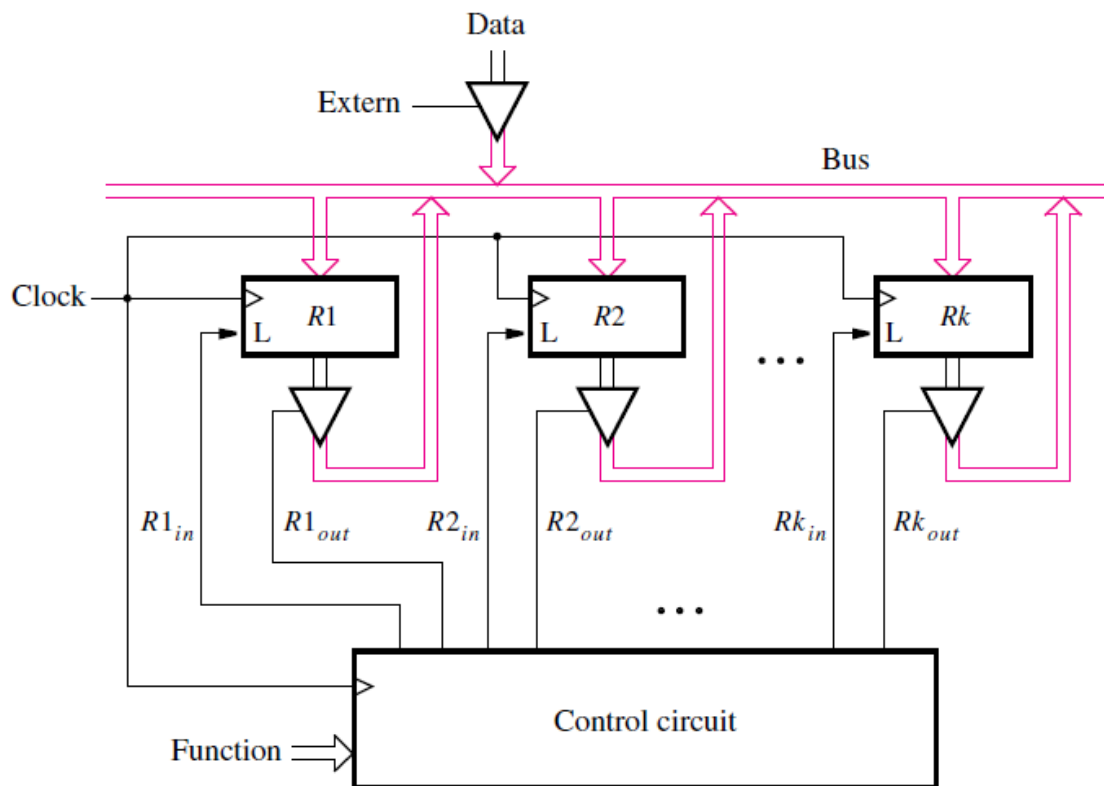

Fig 12.1 A digital system with k registers.
- Consider a system that contains k n -bit registers, $R1$ to Rk . Figure 12.1 shows how these registers can be connected using tri-state drivers to implement the bus structure. The data outputs of each register are connected to tri-state drivers. When selected by their enable signals, the drivers place the contents of the corresponding register onto the bus wires. The enable signals are generated by a control circuit.
- In general, the control circuit could perform a number of functions, such as transferring the data stored in one register into another register and controlling the processing of data in various functional units of the system. Figure 12.1 shows an input signal named Function that instructs the control circuit to perform a particular task. The control circuit is synchronized by a clock input, which is the same clock signal that controls the k registers.